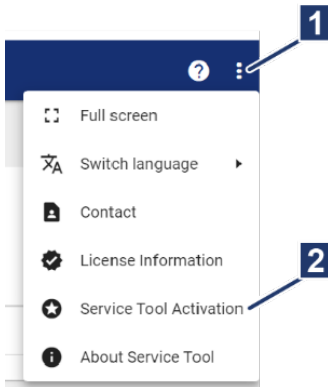

Fig. 4-1: Service Tool activation
2. Click on  > *Service Tool Activation* (→ Fig. 4-1).